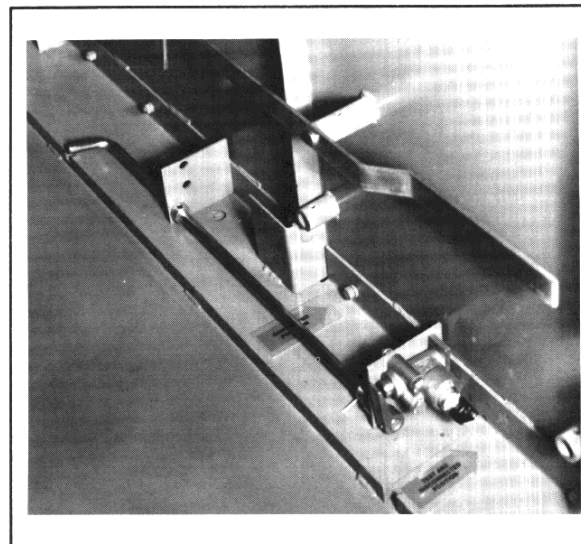

Figure 1-17
1.5 Key Interlock System (Figure 1-17)